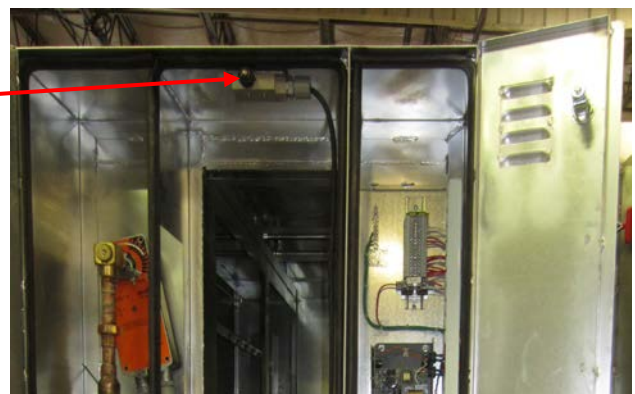

Figure 4-23-2
3. Push in and tape the Door Safety Switch in the closed position (Refer to Figure 4-23-2).